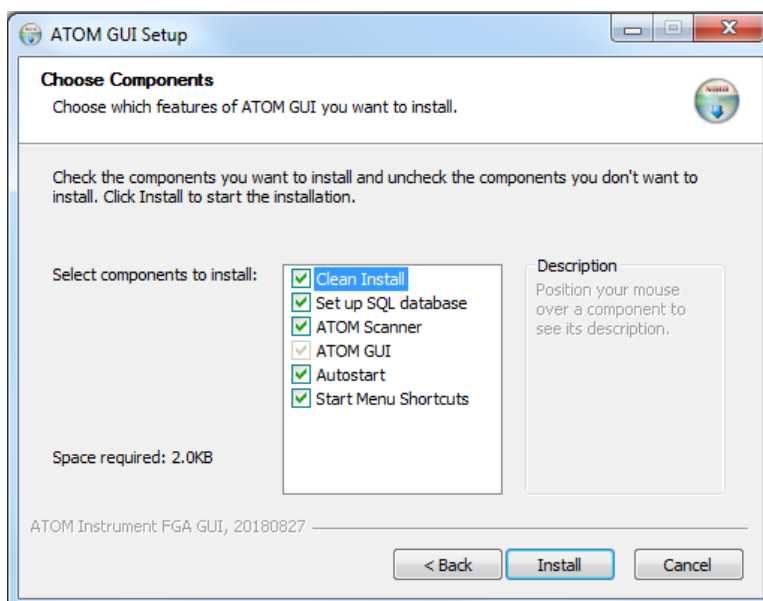

Figure 3.10
3. Leave all options “checked”, and click **Install** (Figure 3.10)